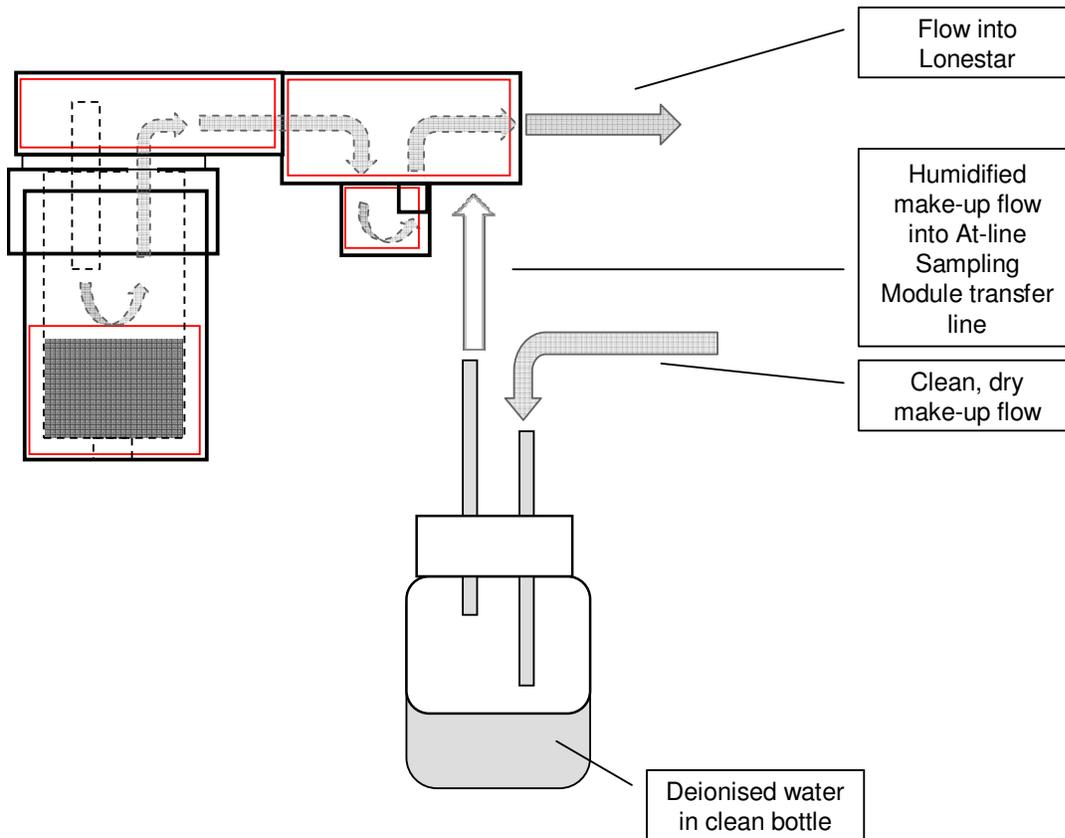

Figure 6: Humidifying make-up flow by passing it through water headspace
- Another way of humidifying the make-up flow is to pass the flow through the headspace of a vessel containing deionised water. See Figure 6 for an illustration of this. The final humidity of the air flow will depend on several factors, including the air flow rate and the temperature of the water.